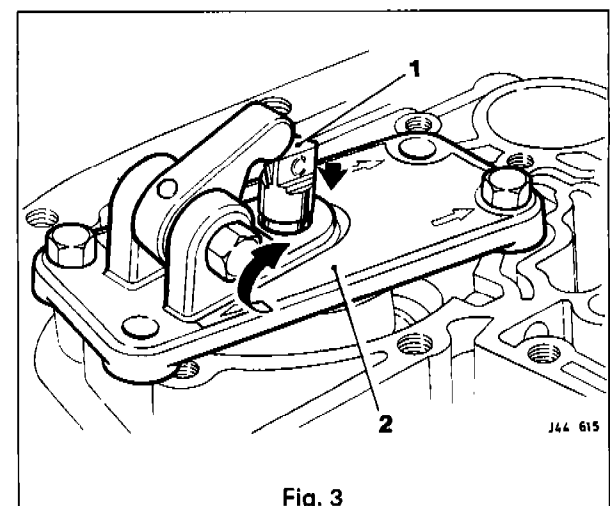

Fig. 3
- Fit and align rear band; apply pin checking tool JD 192 (2 Fig. 3) to the main case. Note the orientation.
Note: Ensure the stepped gauge pin (1 Fig. 3) moves freely in the tool and pin bore.